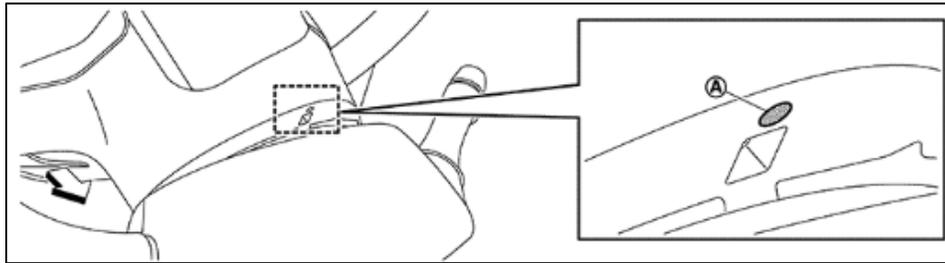

Figure 3
- Turn the steering wheel until the access hole (A) is visible from the top of the steering column (Figure 3).